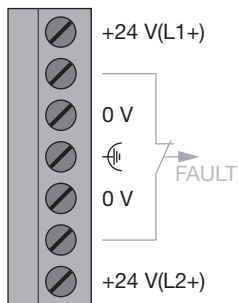

Fig. 1: Operating voltage supply – assignment of 7-pin terminal block
- ▶ The repeater should only be supplied with a regulated safety extra-low voltage (SELV) in accordance with IEC/EN 60950-1, EN 61131-2 with a maximum of +32 V DC (typ. +24 V DC). It can be fed in using the 7-pin screw-type terminal block (see Fig. 1) on the upper side of the repeater. The operating voltage inputs are protected against incorrect pole connection.